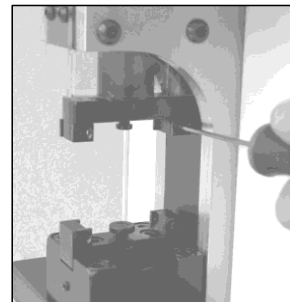

Fig. 9.01
- Loosen on one side the screw of the sliding plates with the 2mm hex key and slide the plates to the side. (Fig. 9.01)